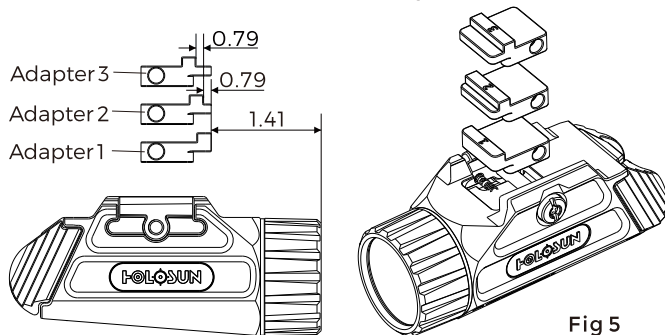

Fig 5
The P.ID/P.ID-HC comes with 3 adapters, Marked as 1,2,3 respectively. See Fig 5.
- 4) Place the fixed side of the rail clamp against the firearm rail, use the included tool to turn the clamp screw head clockwise completely until the P.ID/P.ID-HC is secured onto the rail and cannot be moved forward or back. See Fig 5